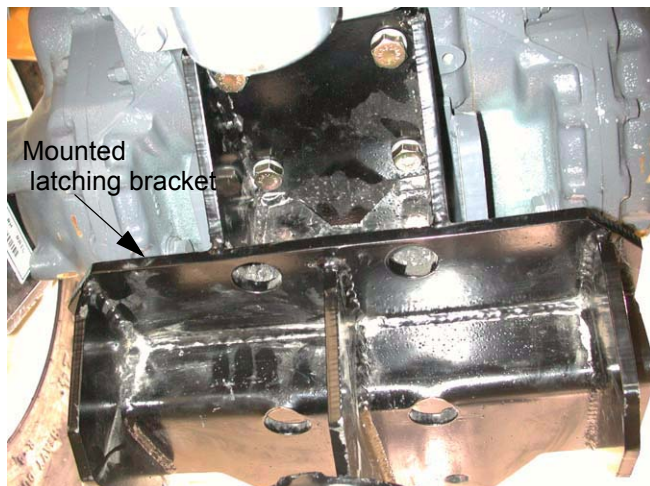

Figure 1.24
- 1.24. Fasten the latching bracket and draw bar bracket to the bottom of the transmission housing using the six 14 mm by 40 mm bolts and lock washers provided with the backhoe. See Figure 1.24.